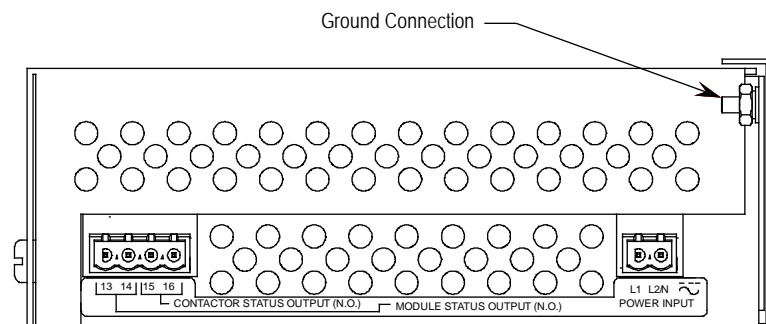

Figure 3.4 – Bottom side connections
The IntelliVAC module must be connected to a common ground terminal (PE) on the controller panel. The ground terminal is located on the bottom of module enclosure (refer to Figure 3.4).
Control power is applied to the module with a two-pole connector located at the bottom rear portion of the module. Refer to Figure 3.4 for connections. The 'L1' connection is intended to be the 'Hot' or '+' side of the control power, and the 'L2/N' connection is intended to be the 'Neutral', 'Return', or '-' side of the control power.
Status relay connections are accessed with a four-pole connector located at the bottom front portion of the module. Refer to Figure 3.4 for connections. There are two status relays, each with one normally-open contact: